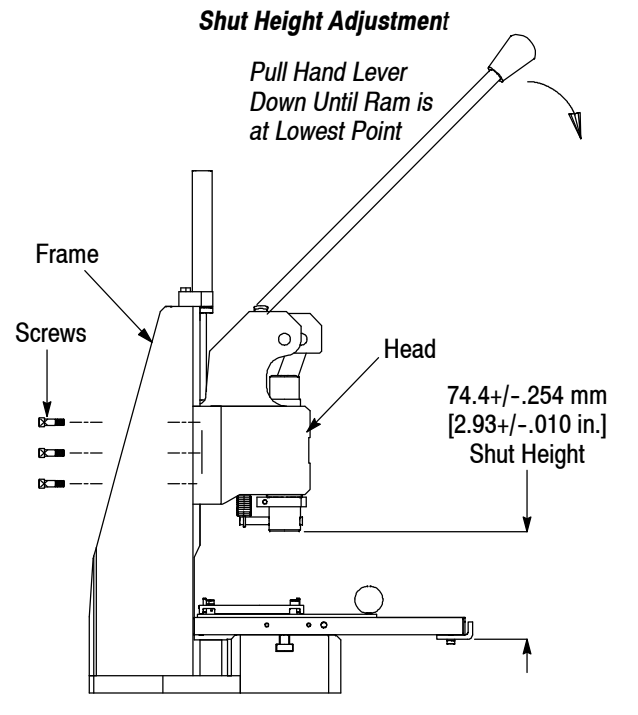

Figure 5
2. Loosen the three screws located behind the frame (see Figure 5).
3. Slide the head up or down until the shut height meets the dimension given in Figure 5.